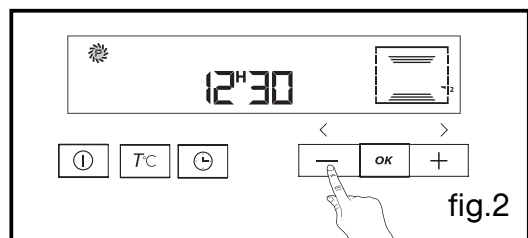

fig.2
Then press once on the button - to get the symbol "P" flashing in the display (fig.2).
- Press the + or - button to set the desired end time (fig.2).